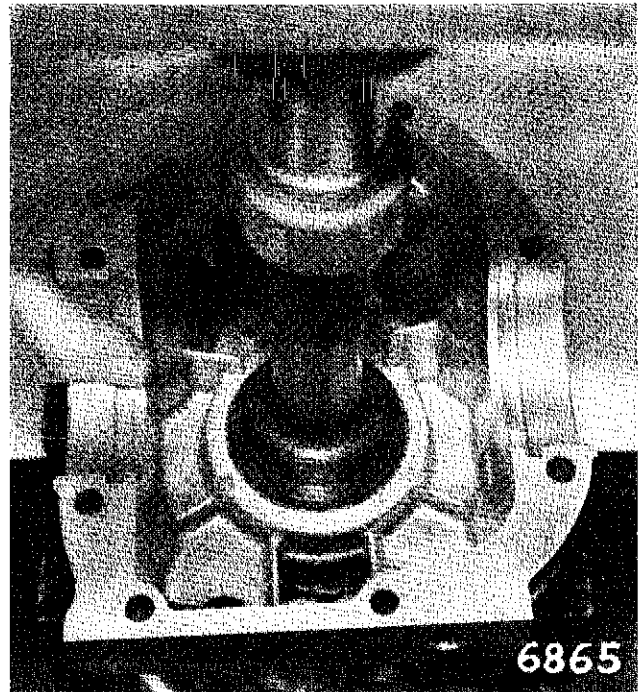

Fig. 28. Fit pinion head bearing to casing
Place the previously selected pinion head shims in the bearing recess in the hypoid casing (3). Using Tool Adaptor No. RG370, press in the outer race as shown in Fig. 28.